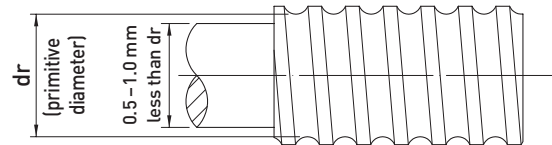

Fig. 3.5 Machining the terminal of a ballscrew
- f) If you choose a ballscrew with internal recirculation or end cap recirculation, you must machine the end of the shaft at the bottom of the raceway. The shank diameter should be approximately 0.5 - 1.0 mm smaller than the original diameter of the screw (Fig. 3.5).